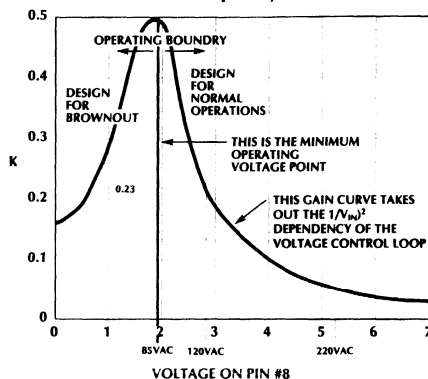

Figure 6. K-factor. Gain adjustor gain with respect to the voltage at pin #8.
Figure 6 shows the gain adjustor (K) with respect to the voltage at pin #8. The curve has been separated in two parts. The right hand part is for operation under normal conditions in the voltage range from minimum line voltage to maximum line voltage (90VAC to 260VAC). 85VAC on the curve has been chosen to account for tolerances. Under normal operating conditions as input voltage decreases the gain increases compensating for the drop in the loop gain.